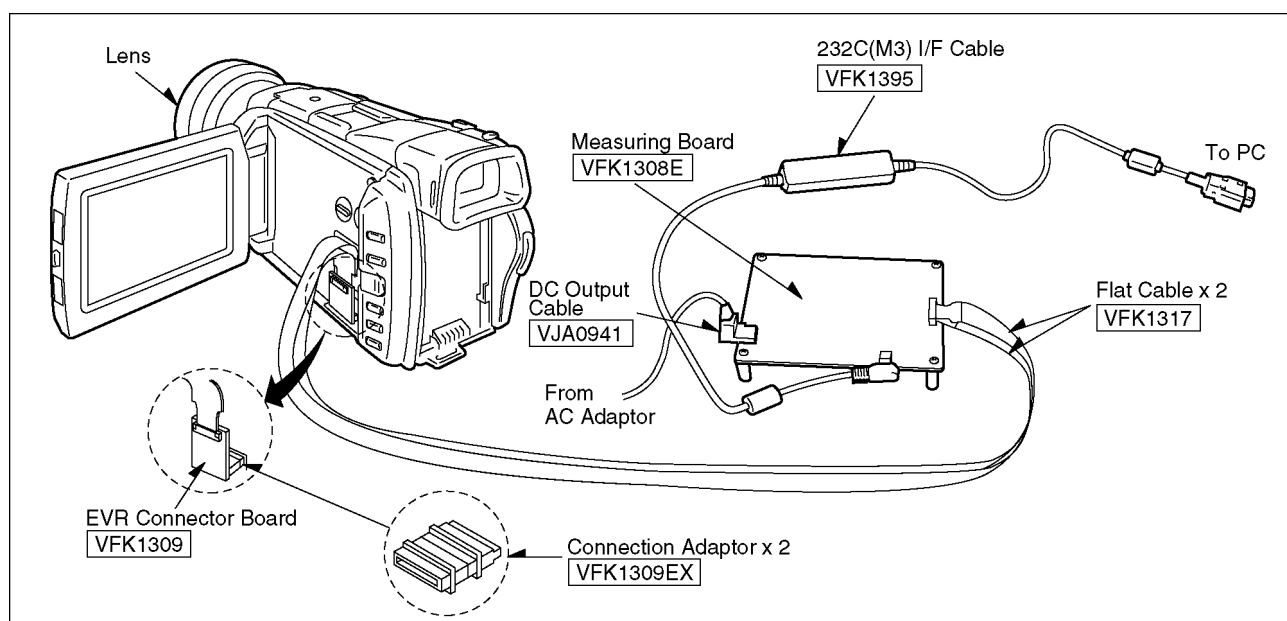

Fig. E2
2. Then connect the following cables as shown in Fig. E2.